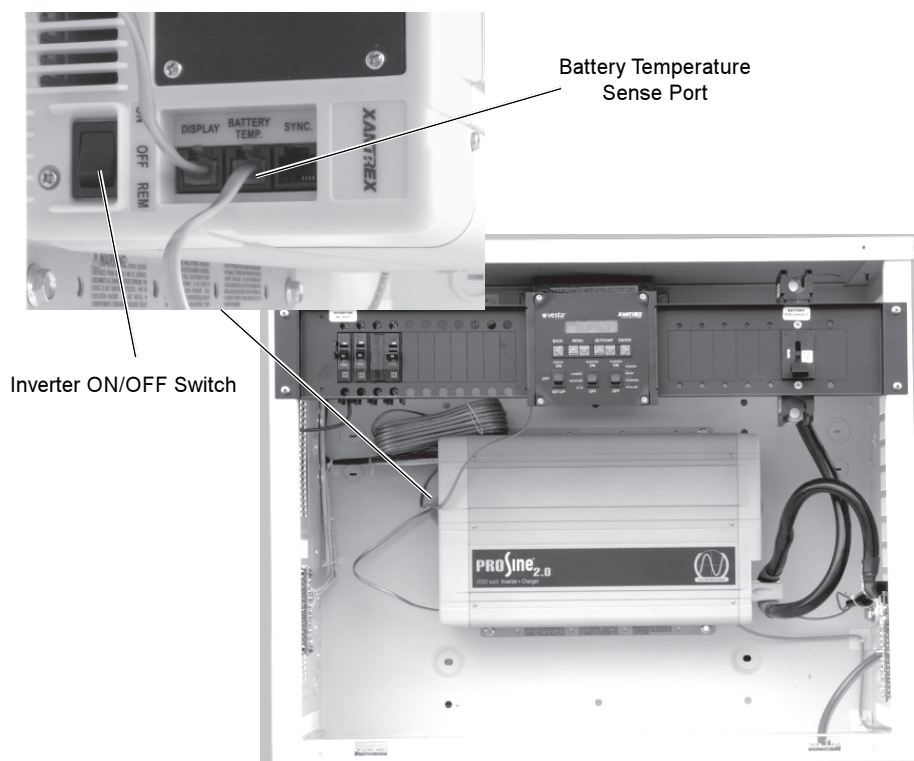

Figure 3-9
2. Switch ON the DC disconnect breaker (4) to supply battery power to the inverter.
3. Switch ON the PROSine inverter using the switch located on the left-hand side of the inverter. See Figure 3-9.